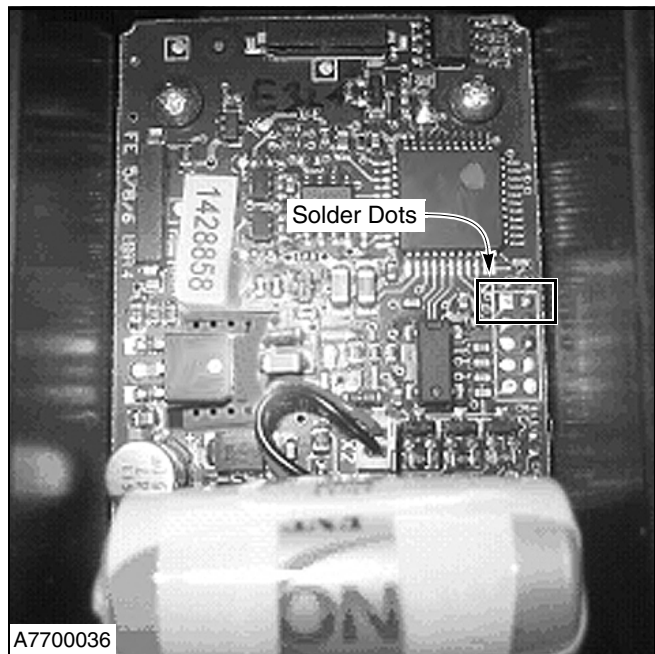

Figure 39
2. Short the top two solder dots with a metal tool (tip of a screwdriver, paperclip, etc.). (See Figure 39.)